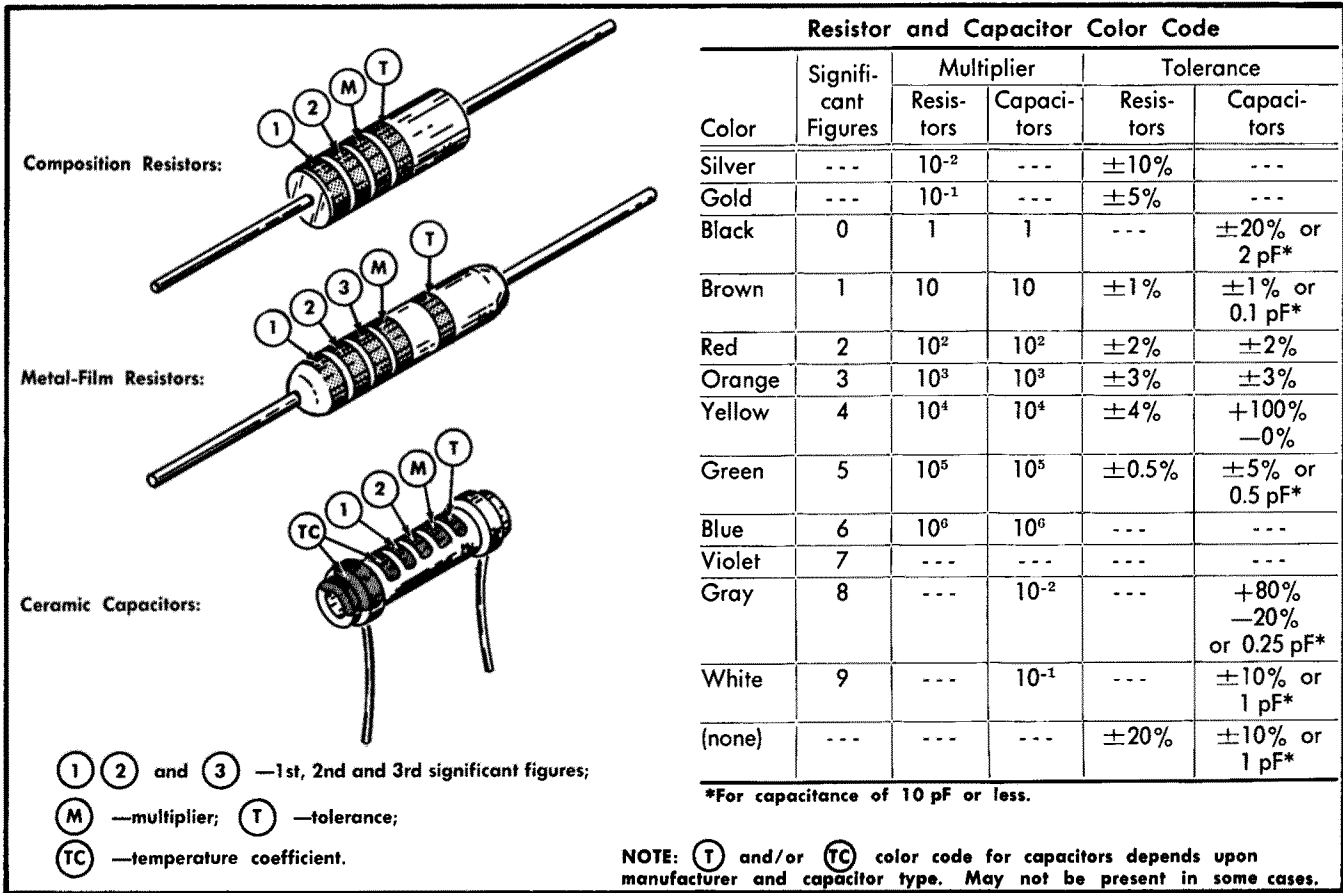

Fig. 4-4. Color code for resistors and ceramic capacitors.
**Capacitor Marking.** The capacitance values of common disc capacitors and small electrolytics are marked on the side of the component body. The white ceramic capacitors used in the 7613 are color-coded in picofarads using a modified EIA code (see Fig. 4-4).